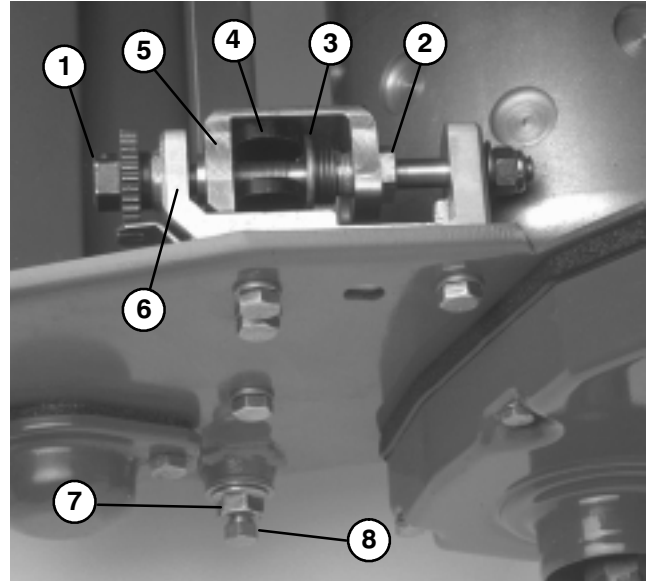

Figure 44
1. Turn bedbar adjuster screw, counterclockwise, until channel bottoms out in adjuster frame (Fig. 44).
2. Using a $7/8''$ standard wrench, back out the spring tension screw, until the thrust washer is no longer tensioned against the bedbar (Fig. 44).
3. On each side of the machine, loosen the jam nut securing the bedbar bolt (Fig. 44).
4. Remove each bedbar bolt allowing bedbar to be pulled downward and removed from machine. Account for (2) nylon and (2) stamped steel washers on each end of bedbar (Fig. 44).